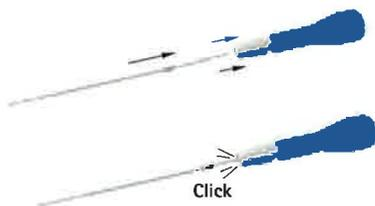

Fig. 2 Assembling the drill
- Insert drill in the drill handle (FJ839R), see Fig. 2.
- The drill engages audibly, see Fig. 2.